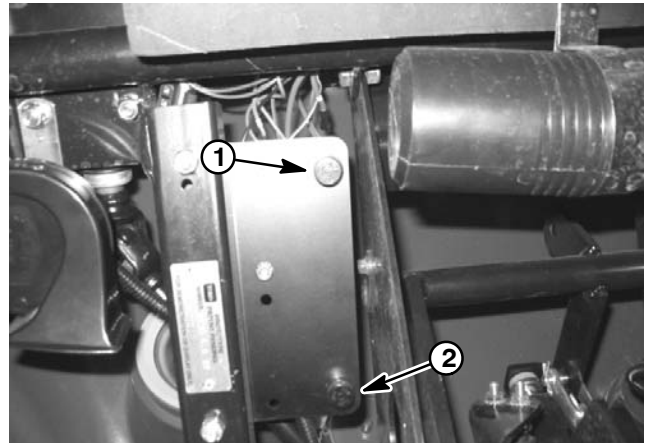

Figure 35
Two (2) of the fuses are located beneath the steering column (Fig. 35). These fuses supply power to the following: